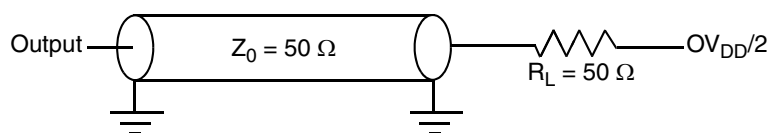
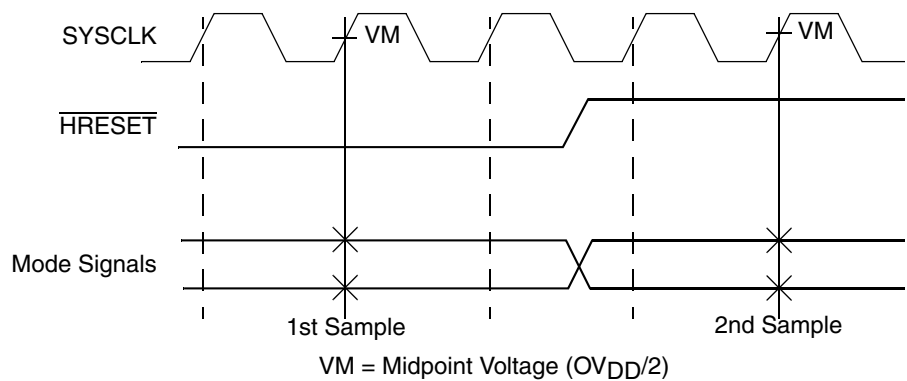
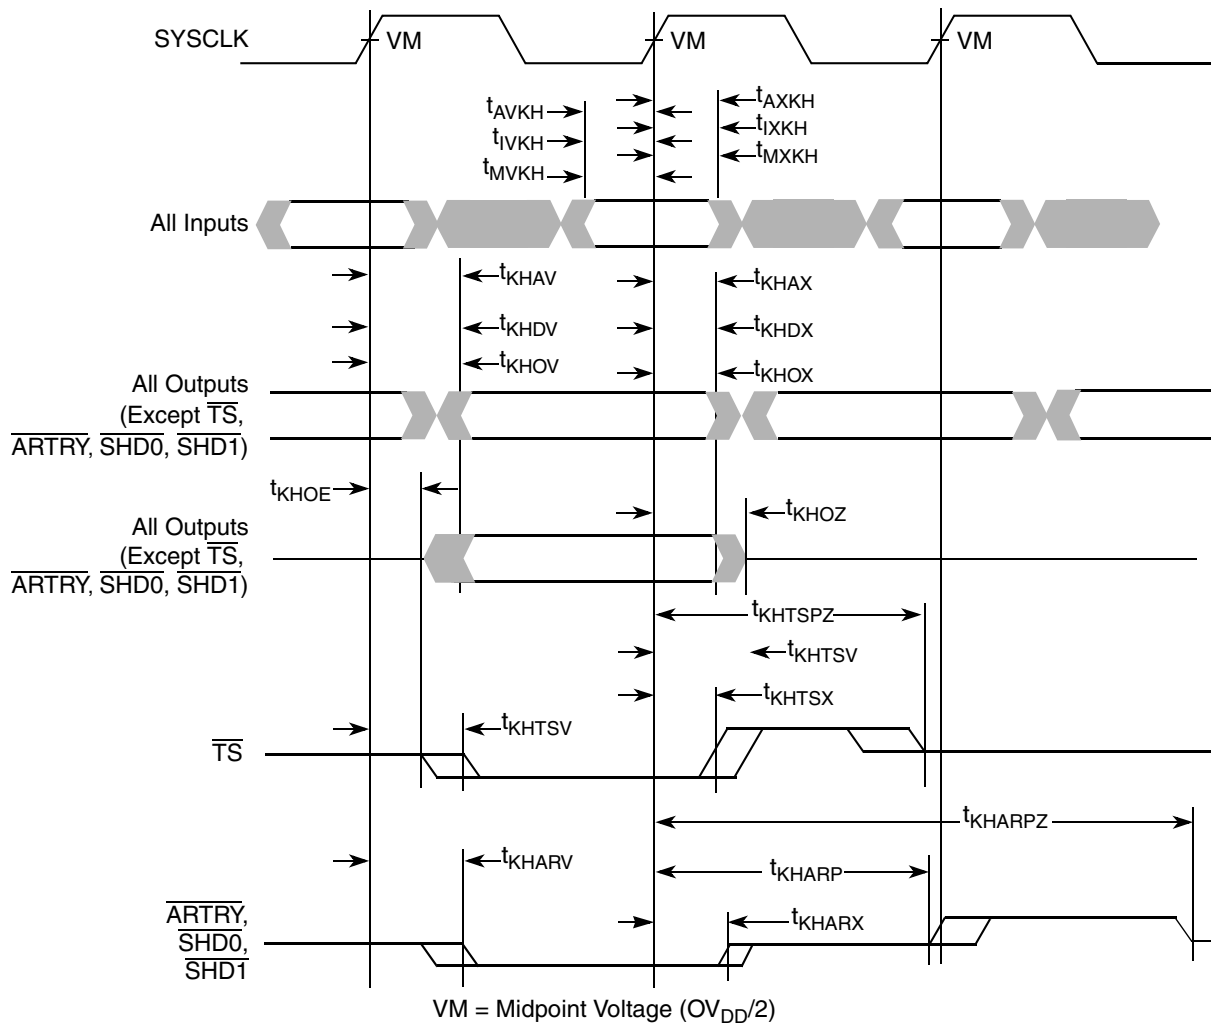

Figure 4. AC Test Load
Figure 5. Mode Input Timing Diagram
Figure 6. Input/Output Timing Diagram
Table 8 provides the clock AC timing specifications as defined in Figure 6 and represents the tested operating frequencies of the devices. The maximum system bus frequency,  $f_{\text{SYSCLK}}$ , given in Table 8 is considered a practical maximum in a typical single-processor system. The actual maximum SYSCLK frequency for any application of the MPC7457 will be a function of the AC timings of the MPC7457, the AC timings for the system controller, bus loading, printed-circuit board topology, trace lengths, and so forth, and may be less than the value given in Table 8. For information regarding the use of spread spectrum clock generators, see Section 9.1.3, “System Bus Clock (SYSCLK) and Spread Spectrum Sources.” PLL configuration and bus-to-core multiplier information is found in Section 9.1.1, “Core Clocks and PLL Configuration.”
Table 9 provides the processor bus AC timing specifications for the MPC7457 as defined in Figure 4 and Figure 5. Timing specifications for the L3 bus are provided in Section 5.2.3, “L3 Clock AC Specifications.”
1. All input specifications are measured from the midpoint of the signal in question to the midpoint of the rising edge of the input SYCLK. All output specifications are measured from the midpoint of the rising edge of SYCLK to the midpoint of the signal in question. All output timings assume a purely resistive 50- $\Omega$  load (see Figure 4). Input and output timings are measured at the pin; time-of-flight delays must be added for trace lengths, vias, and connectors in the system.
2. The symbology used for timing specifications herein follows the pattern of  $t_{(\text{signal})(\text{state})(\text{reference})(\text{state})}$  for inputs and  $t_{(\text{reference})(\text{state})(\text{signal})(\text{state})}$  for outputs. For example,  $t_{\text{VKKH}}$  symbolizes the time input signals (I) reach the valid state (V) relative to the SYCLK reference (K) going to the high (H) state or input setup time. And  $t_{\text{KH OV}}$  symbolizes the time from SYCLK(K) going high (H) until outputs (O) are valid (V) or output valid time. Input hold time can be read as the time that the input signal (I) went invalid (X) with respect to the rising clock edge (KH) (note the position of the reference and its state for inputs) and output hold time can be read as the time from the rising edge (KH) until the output went invalid (OX).
4. According to the bus protocol,  $\overline{\text{TS}}$  is driven only by the currently active bus master. It is asserted low then precharged high before returning to high impedance as shown in Figure 6. The nominal precharge width for  $\overline{\text{TS}}$  is  $0.5 \times t_{\text{SYCLK}}$ , that is, less than the minimum  $t_{\text{SYCLK}}$  period, to ensure that another master asserting  $\overline{\text{TS}}$  on the following clock will not contend with the precharge. Output valid and output hold timing is tested for the signal asserted. Output valid time is tested for precharge. The high-impedance behavior is guaranteed by design.
6. According to the bus protocol,  $\overline{\text{ARTRY}}$  can be driven by multiple bus masters through the clock period immediately following  $\overline{\text{ACK}}$ . Bus contention is not an issue because any master asserting  $\overline{\text{ARTRY}}$  will be driving it low. Any master asserting it low in the first clock following  $\overline{\text{ACK}}$  will then go to high impedance for one clock before precharging it high during the second cycle after the assertion of  $\overline{\text{ACK}}$ . The nominal precharge width for  $\overline{\text{ARTRY}}$  is  $1.0 t_{\text{SYCLK}}$ ; that is, it should be high impedance as shown in Figure 6 before the first opportunity for another master to assert  $\overline{\text{ARTRY}}$ . Output valid and output hold timing is tested for the signal asserted. The high-impedance behavior is guaranteed by design.
8.  $\overline{\text{BMODE}}[0:1]$  and  $\overline{\text{BVSEL}}$  are mode select inputs and are sampled before and after  $\overline{\text{HRESET}}$  negation. These parameters represent the input setup and hold times for each sample. These values are guaranteed by design and not tested. These inputs must remain stable after the second sample. See Figure 5 for sample timing.
Figure 4 provides the AC test load for the MPC7457.
Figure 5 provides the mode select input timing diagram for the MPC7457.
Figure 6 provides the input/output timing diagram for the MPC7457.